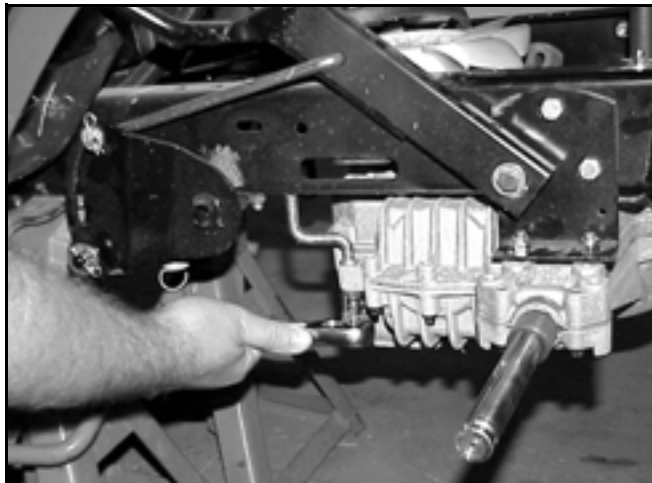

Figure 86 MVC-0043
2. Install the washer and nut to the torque strap and tighten (Figure 86).